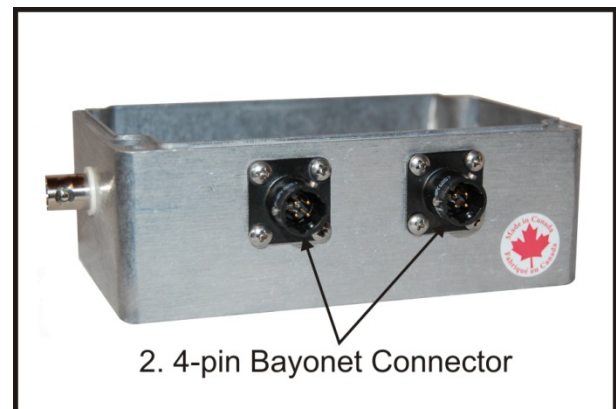

Figure 2-2 Upstream and Downstream Bayonet Connectors
2. Two 4-pin circular male bayonet connectors (Figure 2-2) used to attach the upstream and downstream communication cables to the AWP-300. The communication cables supply power to the electronics and carries the data between the electronics and a remote PC. The pin-out information for the connector and the instrumentation cable is shown in Table 2-1 below.